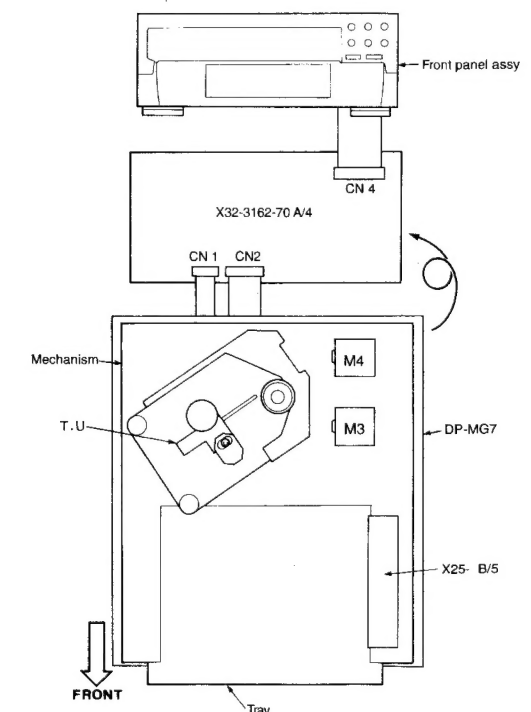

Fig. 3
3. Arrange each parts as figure 3.